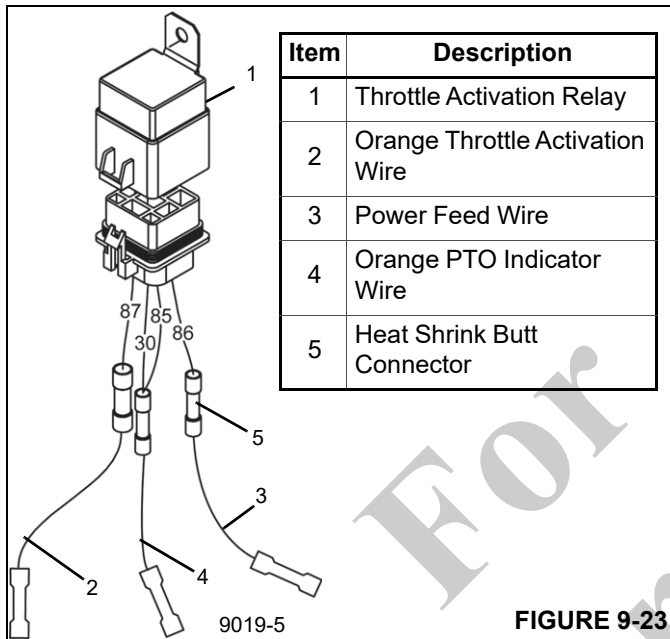

FIGURE 9-23
10. Install the throttle activation relay (1, Figure 9-23) to the engine side of the firewall. Connect the orange throttle activation wire (2) to terminal 87 of the relay. Splice the power feed wire (3) from terminal 86 of the relay to wire 901. Splice the orange PTO indicator wire (4) into the PTO indication circuit and connect it to terminals 85 and 30 of the relay. All splices must be made using a butt connector with heat shrink (5).